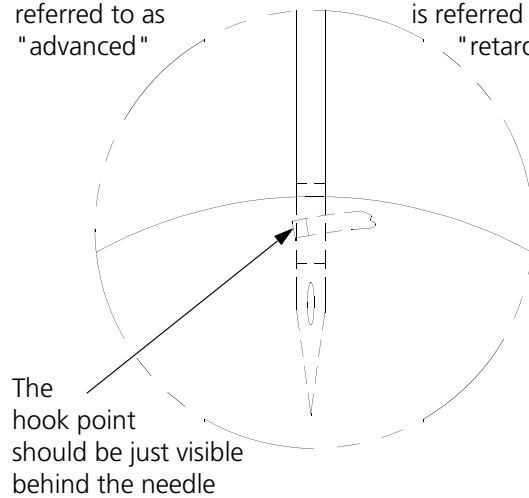

Figure 4-2
14. Align the hook point to the approximate hook timing position as shown in Figure 4-2.
16. Refer to Figure 4-2 for aligning the hook point to the needle.